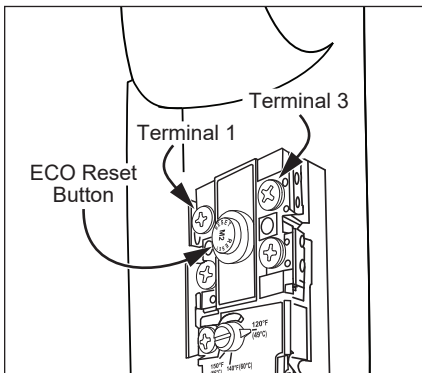

Figure 33 - Energy Cut Off (ECO) Button.
#### 3 Check the Top Two Screws of the ECO Using a Non-Contact Circuit Tester and Confirm that Power is OFF (screw terminals 1 and 3 shown in Figure 33).
- Press the red ECO reset button (Figure 33).